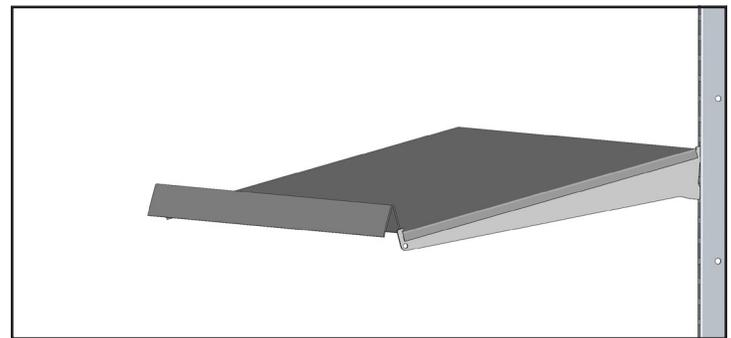

Fig. 5. Correct shelf installation
- c. Once the shelf has cleared the shelf support tab, slide the shelf forward until the front of the shelf is under the front shelf support tab. When installed correctly, the shelf will be supported between the notched areas in the shelf brackets. See fig. 5.